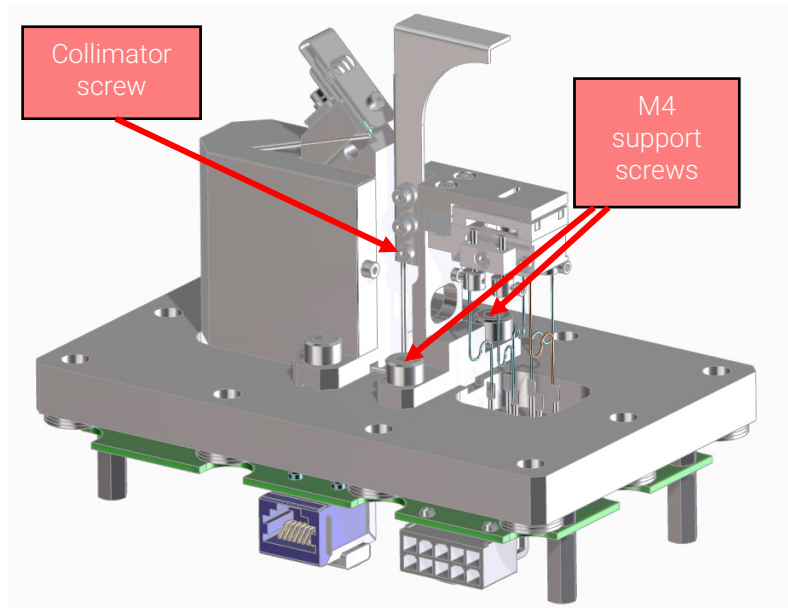

Figure 2-5. M4 support screws
13. On a clean work surface, remove the two M4 support screws. See Figure 2-5.